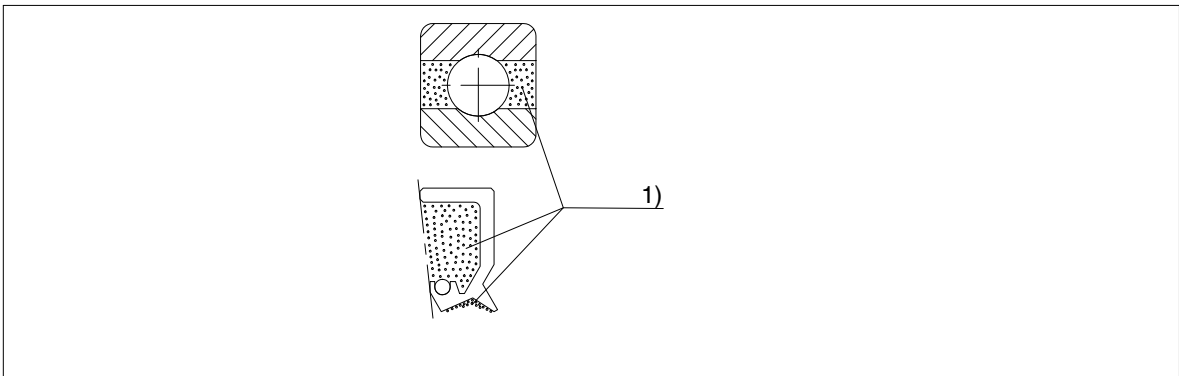

Fig. 18: Filling the rolling bearings and the shaft-sealing rings with grease
- The O-ring (114) must be lightly greased to assist assembly.
- Apply grease to both sides of the rolling bearings (109, 134) (for approved grease types, see table 10). Do not apply additional grease to the rooms between the rolling bearings (see figure 18).
- The shaft-sealing rings (111, 132, 183, 193, 199) are fitted with a grease filling between the dust and sealing lips (see figure 18).